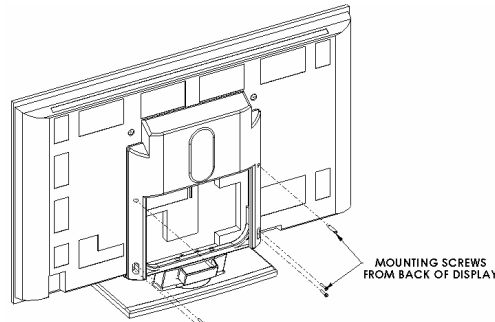
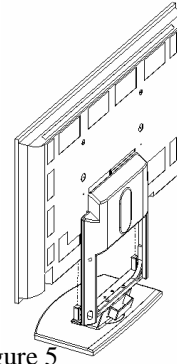

Figure 4
Figure 5
- Remove screws securing table stand to display and remove table stand from display (see Figure 4 and Figure 5).